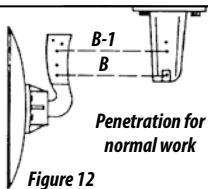

Figure 12
- 04 - The inclination of discs is adjusted by the hole in the hub support. There are 4 adjustments to increase or decrease the depth, 2 for each position of the discs, as figures 12, 13, 14, and 15.
- 05 - Discs in the low position, as figures 12 and 13, suitable for normal and loose soil.